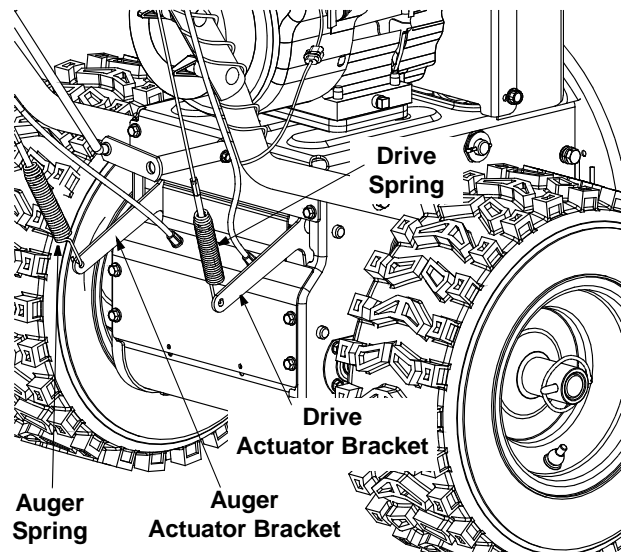

Figure 9
- To readjust the control cable, unhook the spring (found on the end of the auger cable) from the auger actuator bracket. See Figure 9.